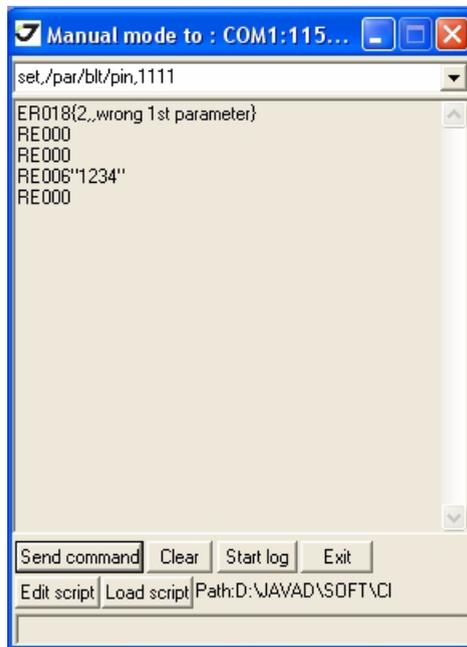

Figure 2-9. Manual Mode
4. In the command line insert the command from the Table 2-1 and click *Send command* (Figure 2-9 on page 38). For details refer to *GREIS (GNSS Receiver External Interface Specification)*, available from JAVAD GNSS website.